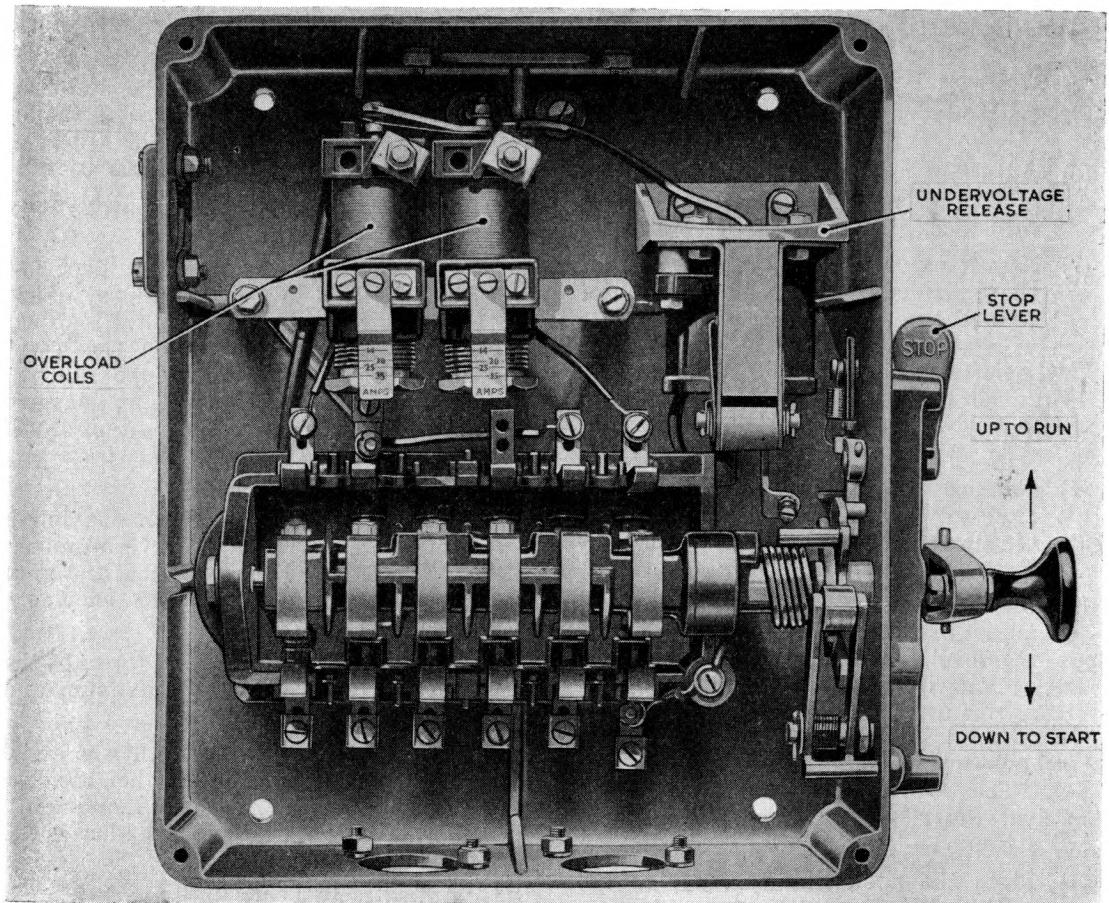

Fig. 46. Starter unit Type 13 (R.V.462C)
- (1) Press and hold down the handle at the side of starter unit Type 13 (*fig. 46*). The turning gear AC motor will start to turn and will quickly gather speed. As soon as the normal running speed is reached, lift the handle smartly to the RUN position and release it. Unless the upward movement is completed quickly, the contactors will not close, the motor will lose speed, and it will be necessary to repeat the starting drill.
- (2) Close the cabin door to complete the door interlock circuit.
- (3) Press the push button on the outside of the container to complete the contactor circuit.
- (4) After a few seconds, the aerial turntable should start to turn and then lock in position ready for control from the operations vehicle.